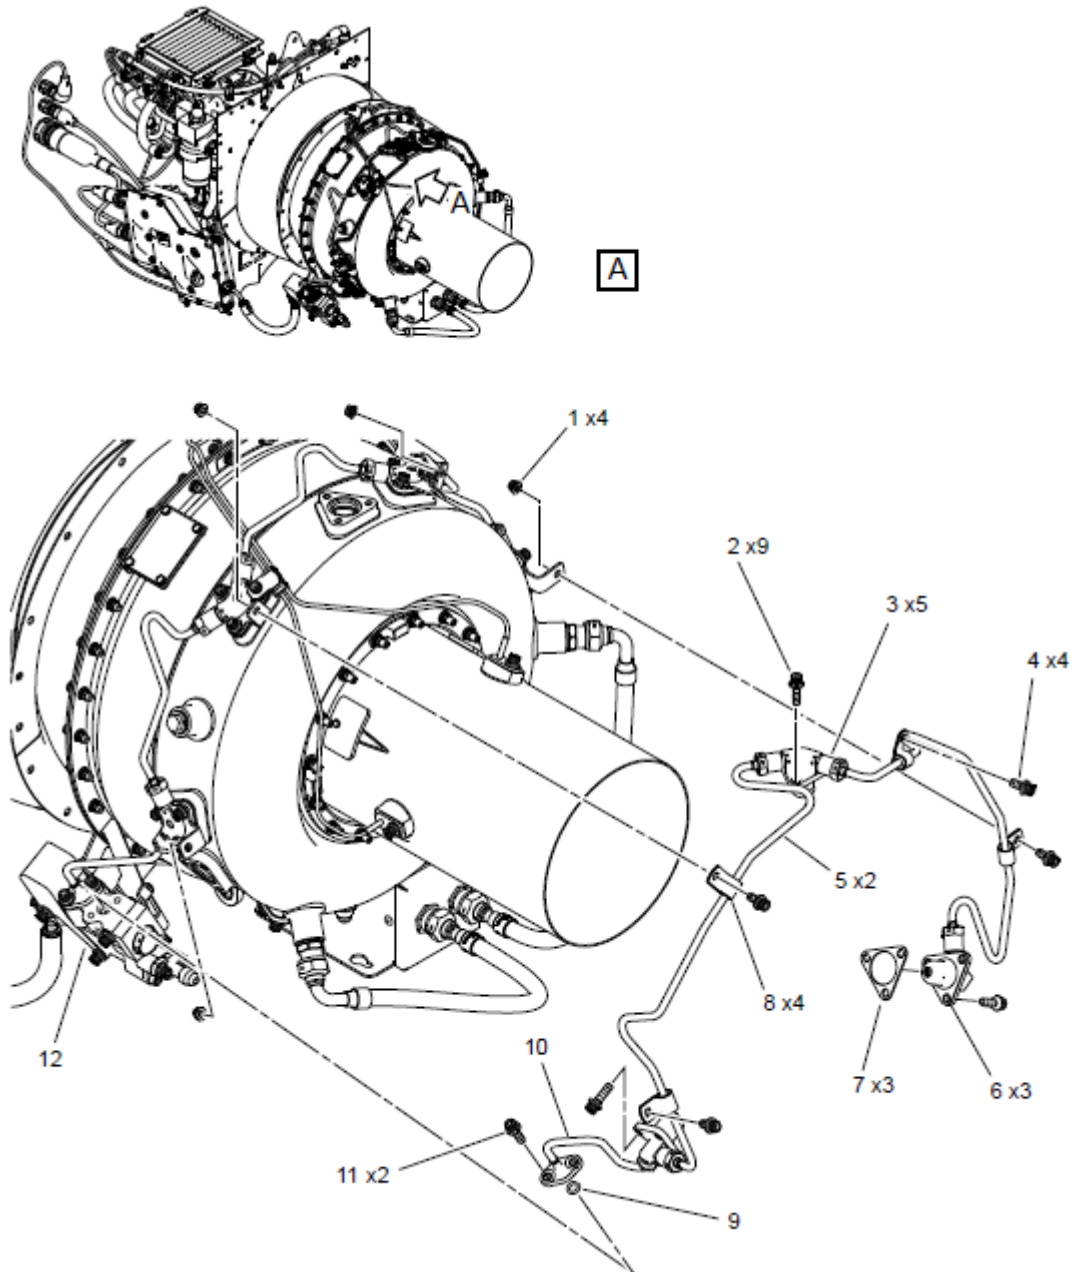

Figure 3 : Ignition manifold - Remove procedure
- Be careful when you cut and remove safety wire. Safety wire can cause injury to persons. Cut and remove the safety wire from the five fuel lines nuts (3, Figure 3).
2. Unscrew the five ignition manifold nuts (3).
Tighten by hand the nine Screws (2, Figure 3).